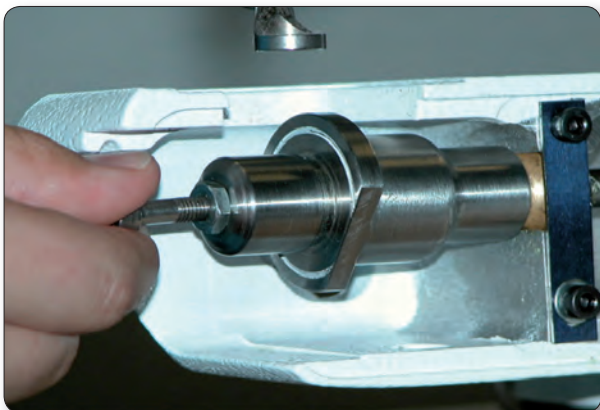

Figure 12.3
2. Rotate the cylinder tool so that the flat side is down. (Figure 12.3)